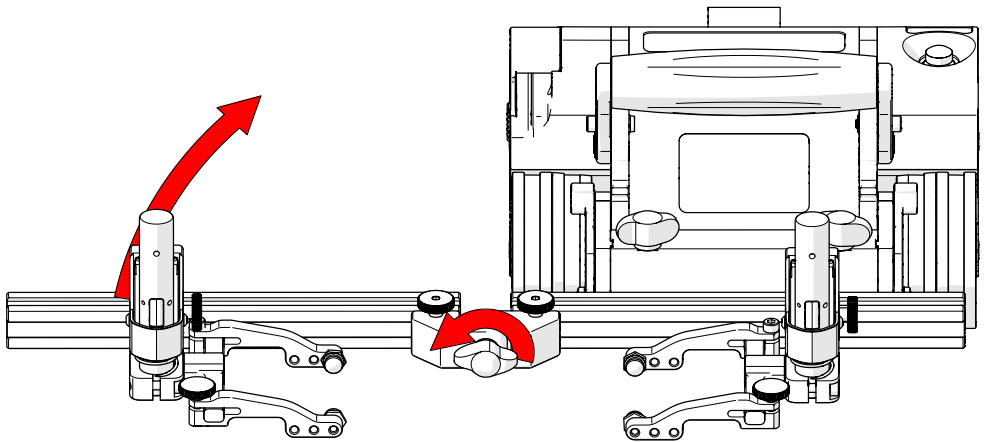

Fig. 193 - Lift frame bar to avoid interference
2. Loosen the pivot wing knob and raise the frame bar to an angle greater than the surface to be scanned (Fig. 193). Tighten the pivot wing knob and place the crawler on the scan surface (see "Placement of Crawler on Inspection Surface" on page 94)